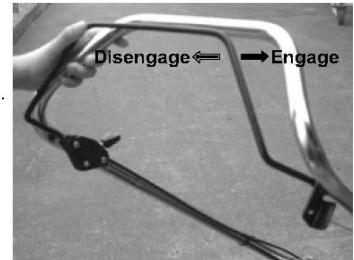

Figure 13. Clutch engagement lever
- ★ Push slowly on the clutch engagement lever to engage the self-propelled drive to the rear wheels. Refer to figure 13.